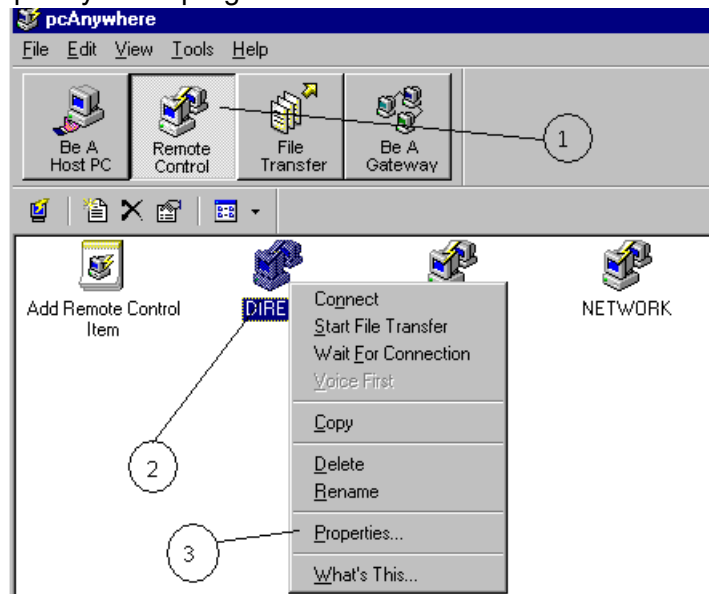

Fig. 1
- Select the Remote Control button (1/ Fig. 1).
- Place the cursor above the "Direct" icon (2/ Fig. 1) and press the right mouse button. The menu (3/ Fig. 1) appears.